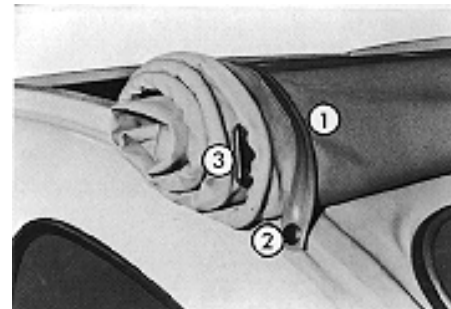

Fig. 29
Roll up the hood as far as the rear window and fasten it down by means of the straps (Fig. 29, Mark 1) and press-studs (2).